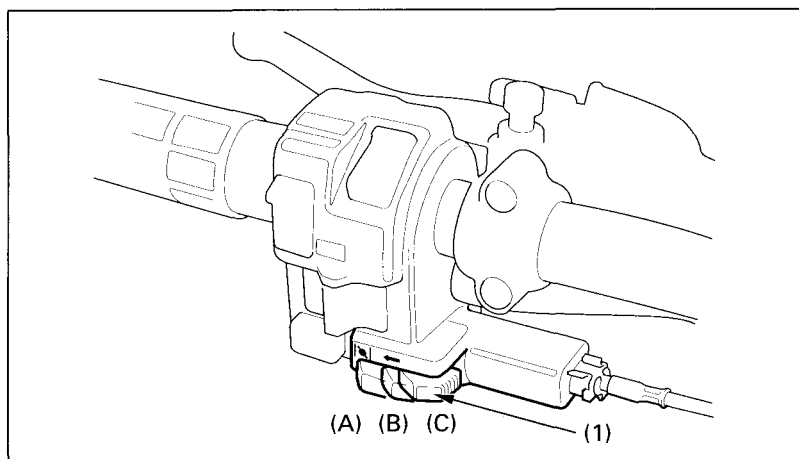

Fig. 2-6
The choke lever (Fig. 2-6) is next to the starter button. The choke has three positions: fully ON (A), halfway position (B), and fully OFF (C).
(1) Kick starter
(2) Right side cover
3. If the engine is cold, move the choke lever left to the full choke position (see Fig. 2-6).